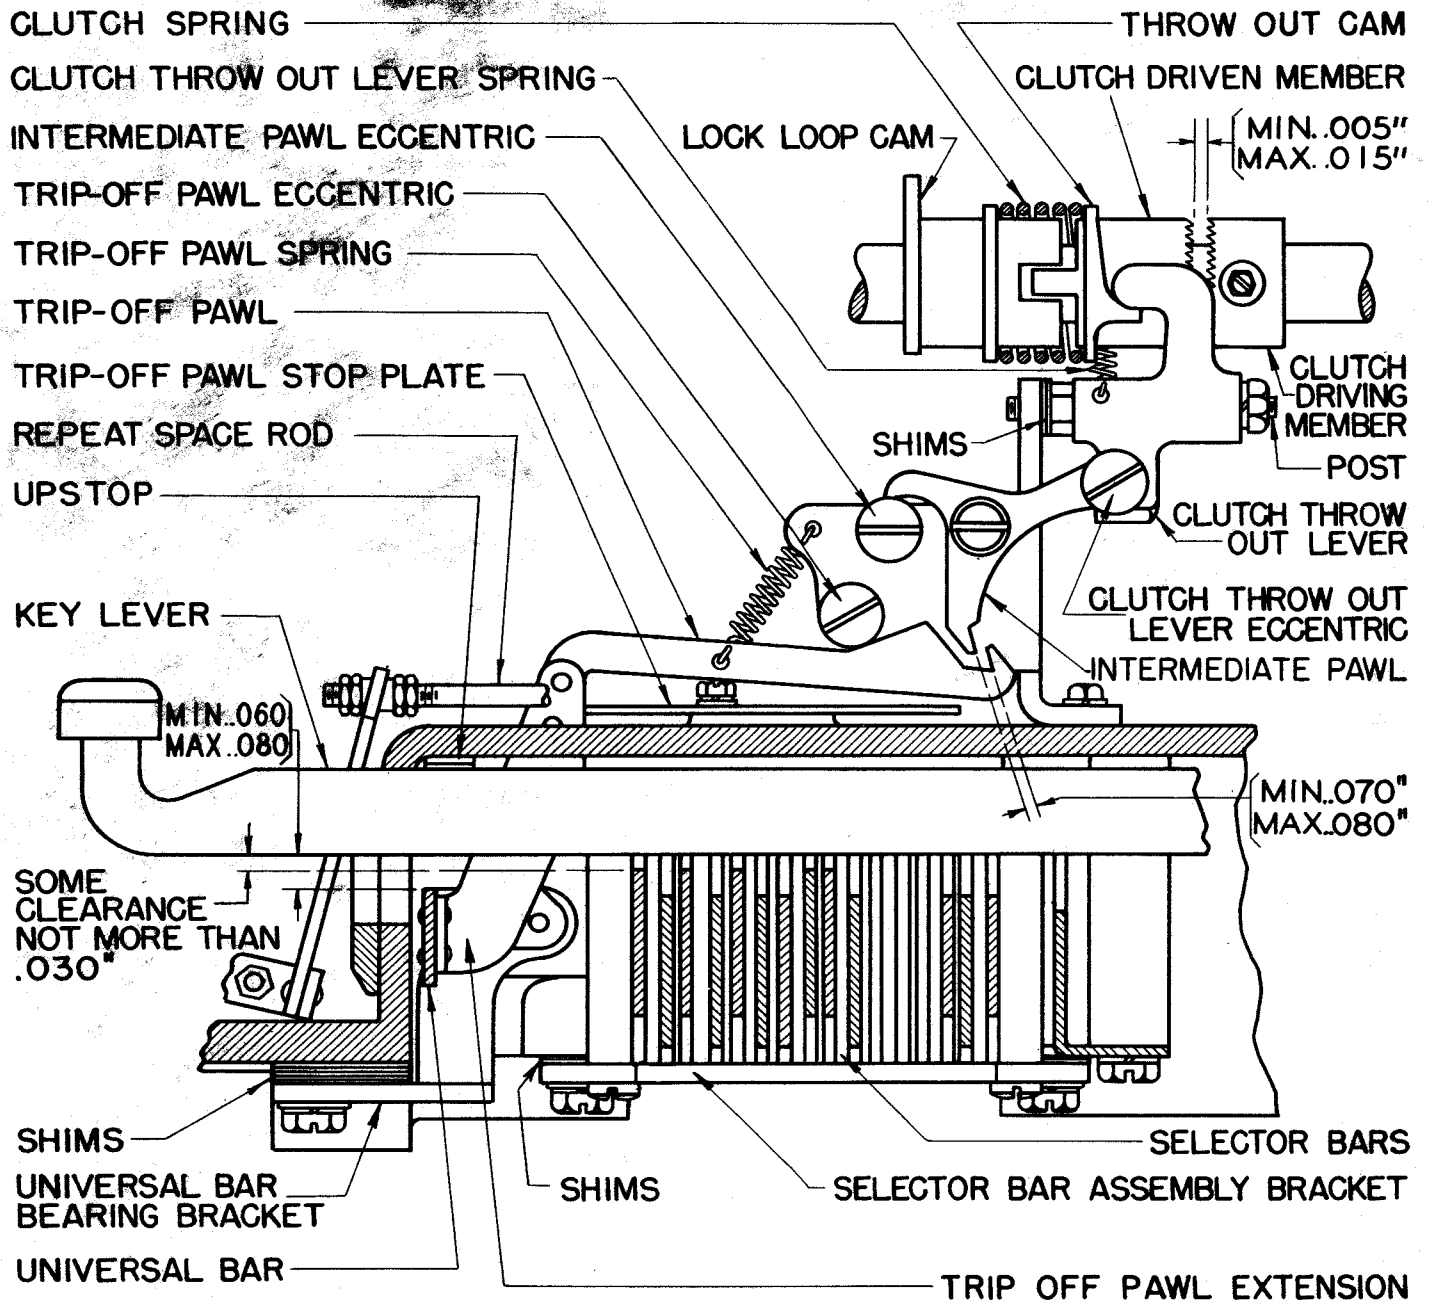

Figure 1
selector bar (A-1) and the key levers in line with the high portions. See Figure 1 of this section.
*2.14 (Replaces) Tripoff Pawl Stop Plate: The tripoff pawl stop plate shall be positioned so that the tripoff pawl clears the intermediate pawl by minimum 0.070 inch, maximum 0.080 inch when the tripoff pawl is resting on its stop plate, and when the intermediate pawl eccentric is positioned with the high part of the eccentric toward the front and its screwdriver slot is horizontal. See Figure 1 of this section.
*2.14A (Add) Universal Bar: The universal bar shall have end play not to exceed 0.008 inch when the tripoff pawl extension is approximately midway between adjacent key levers and shall clear the bottom of the key levers by minimum 0.060 inch, maximum 0.080 inch when the levers are in their normal unoperated position. See Figure 1 of this section.